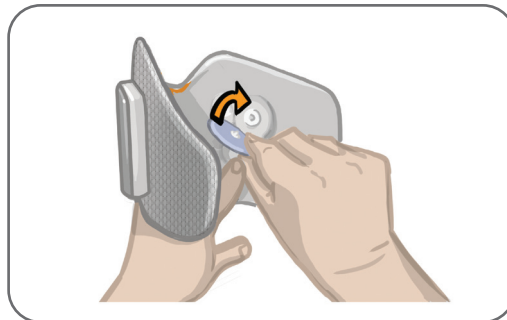

Figure 6-6: Attaching the Round Cloth Electrodes
5. Attach the Round Cloth Electrodes to the electrode bases. See Figure 6-6. For regular Lower Leg Cuff users make sure the Cuff Snap Covers are in place.